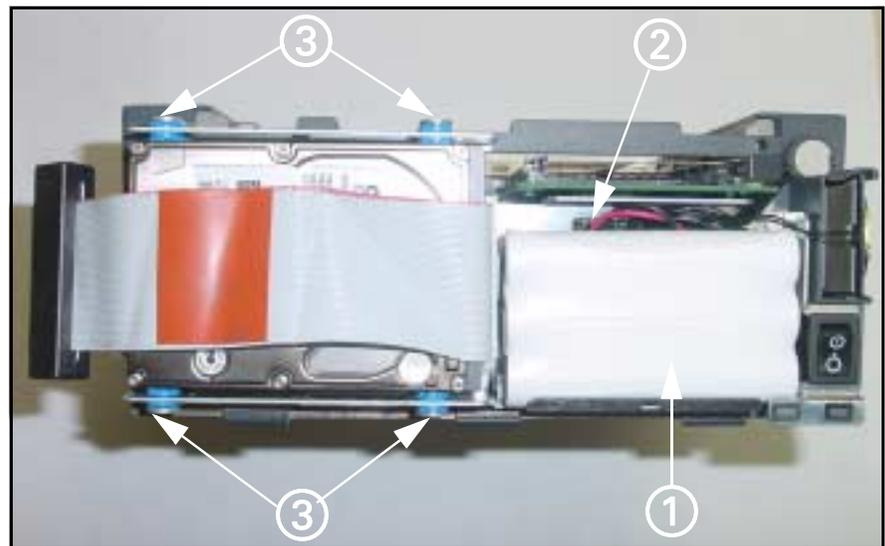

Figure 5-7 MDS (front view)
3. Remove and save 4 Phillips-head screws and sleeves (③ in Figure 5-7) that secure primary hard drive to top and bottom of front housing.